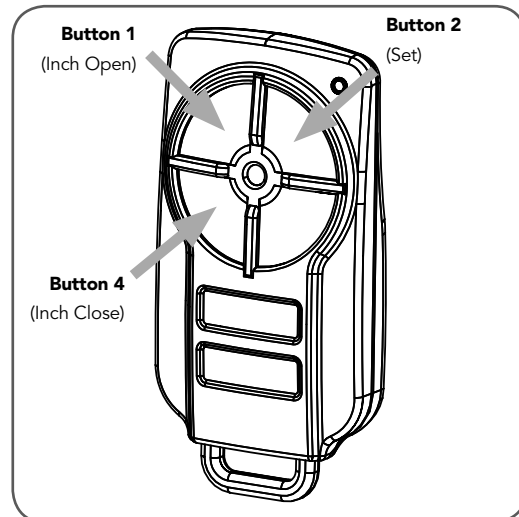

fig 26
- Press Button 1 on the transmitter for two seconds (Fig. 26). Release and pause for two seconds. Press the Button 1 again for two seconds.
- Press and hold Button 4 on the transmitter to close the door. When the door is approx. 20mm from the ground, release Button 4 (Fig. 26).